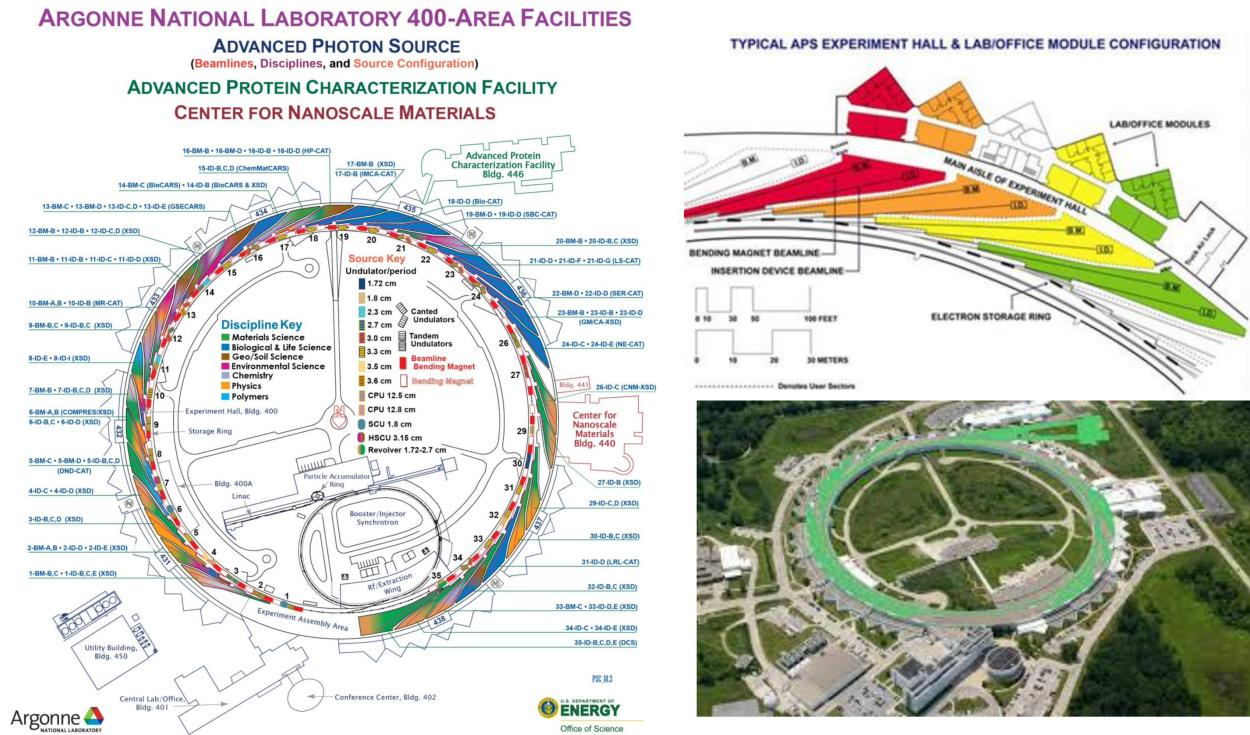

Figure 2.16: APS at Argonne.
- Look for BMs and IDs in Figure 2.16.